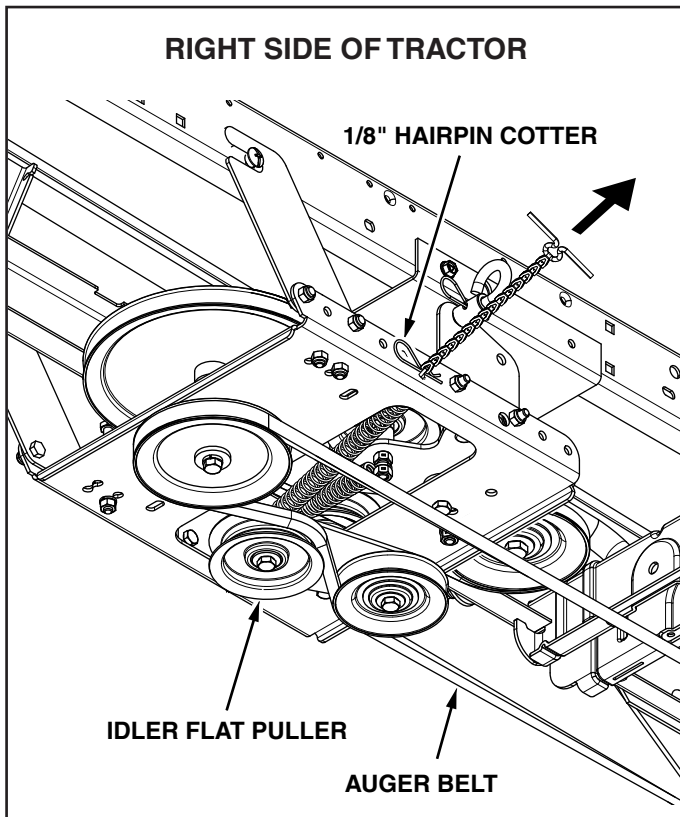

FIGURE 31 VIEWED FROM UNDERNEATH
**NOTE;** To prevent the chain from dragging on the ground, loop the end of the chain through the pivot lock pin. Refer to figure 31 on page 16.
### STEP 33: (SEE FIGURE 31)